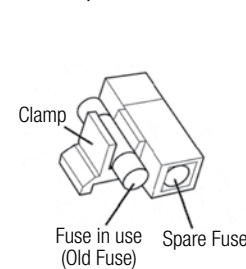

FIGURE 1
4. There are (2) 5A fuses in the fuse assembly. One is a spare.
5. The other is in use (Fig. 1).